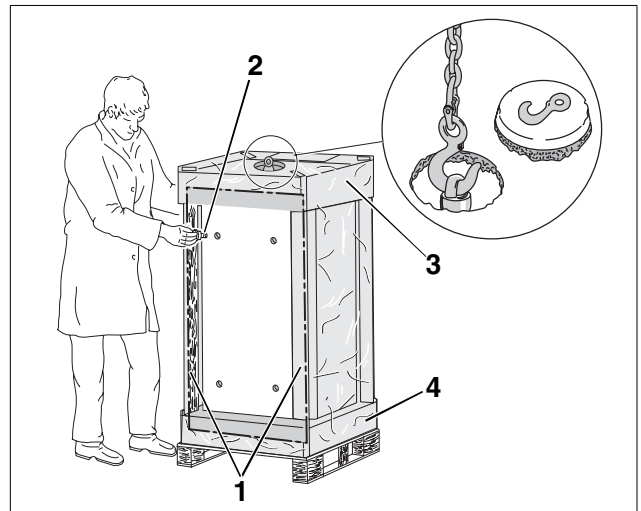

Fig. 3 Cut out of plastic wrapping and screwing in of feet
- Remove plastic wrapping across from the side of the tank labelled "Kessel -Speicherbefestigung" (Fig. 3).
- Screw in the 4 tank feet (Fig. 3, **Item. 2**) (packaged with tank in plastic bag) about 1/2" into the bottom of the tank.
- Remove the two wooden corner posts (Fig. 3, **Item. 1**) from the bottom of the tank.